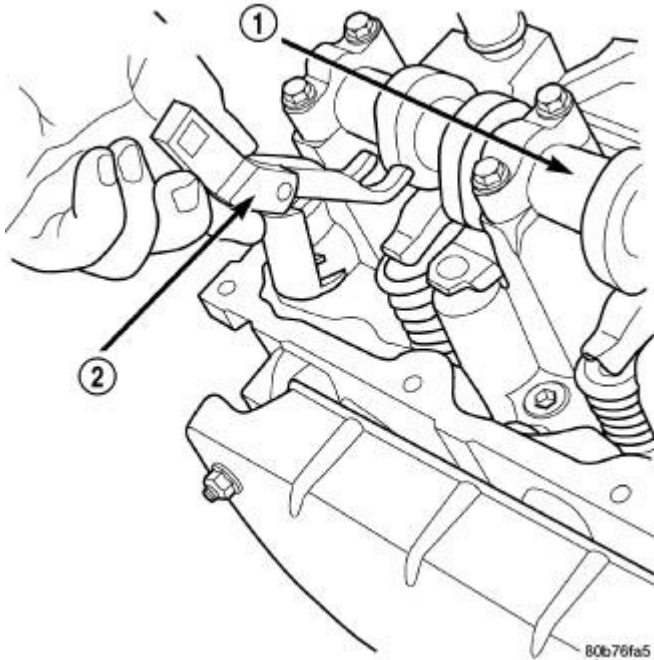

Fig. 43: Rocker Arm - Removal/Installation
5. Using the Rocker Arm Remover/Installer (special tool #8516A, Remover/Installer) (2) press downward on the valve spring, install rocker arm. Refer to **Fig. 43**.